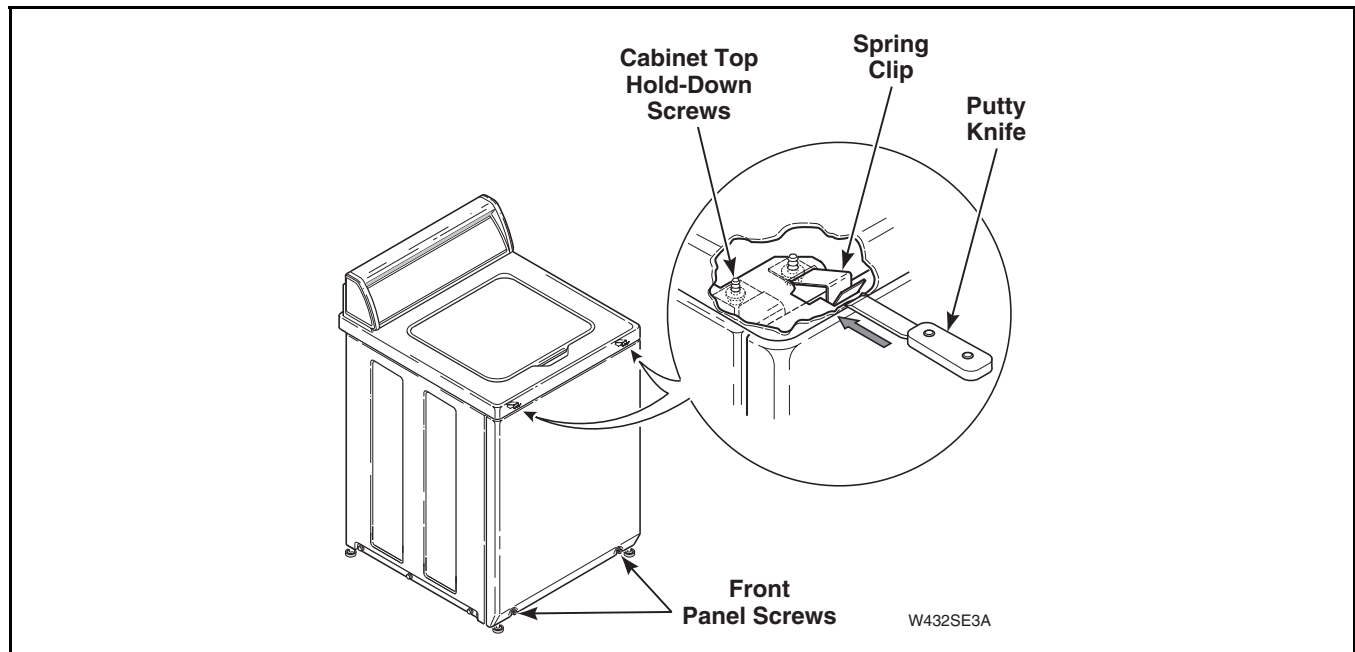

Figure 28
NOTE: Top edge of front panel is held in place by two spring clips located on bottom flange of cabinet top. Refer to *Figure 28*.
- Insert putty knife between cabinet top and top edge of front panel (approximately three inches in from side). Refer to *Figure 28*.
- a. Insert putty knife between cabinet top and top edge of front panel (approximately three inches in from side). Refer to *Figure 28*.